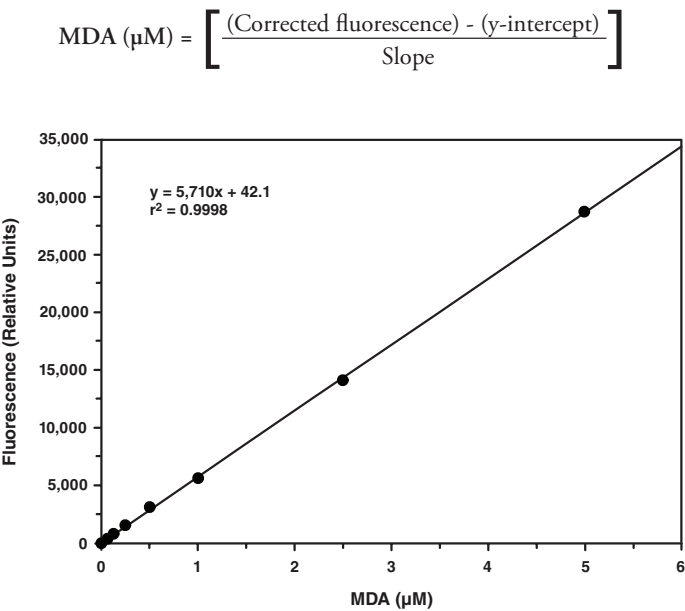

Figure 4. MDA fluorometric standard curve
- 4. Calculate the values of MDA for each sample from the standard curve. An example of the MDA standard curve is shown below in Figure 4.